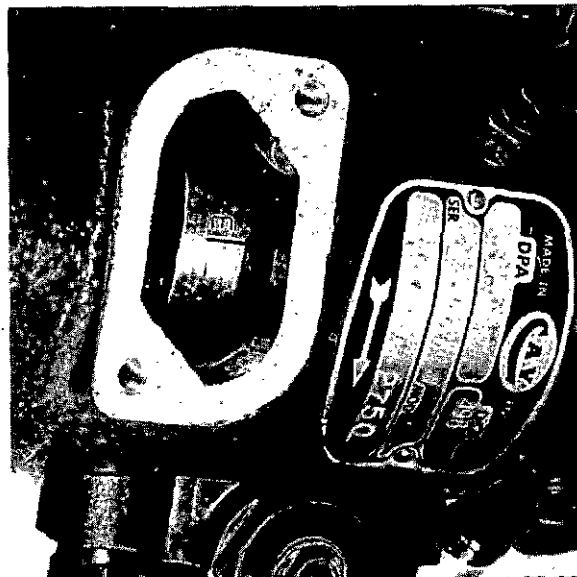

Fig. L3
A circlip is fitted inside the fuel injection pump and when the square end of this circlip is aligned with the correct mark on the fuel pump rotor (see fig. L3), it indicates when the injection starts to No. 1 cylinder (static timing point).
5. Check the fuel injection pump rotor. The line with the letter "E" must be aligned with the square end or the line on the circlip (see figs. L3 or L4). If the line on the rotor does not align with the circlip, turn the fuel injection pump in either direction on the rear of the timing case to make the necessary adjustment.